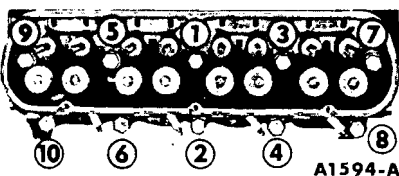

FIG. 31—Cylinder Head Bolt Torque Sequence
3. The cylinder head bolts are tightened in three progressive steps. Torque all the bolts in sequence (Fig. 31) to 50 ft.-lbs., then to 60 ft.-lbs., and finally to specifications. When cylinder head bolts have been tightened following this procedure, it is not necessary to retorquing the bolts after extended operation. However, the bolts may be checked and retorqued, if desired.